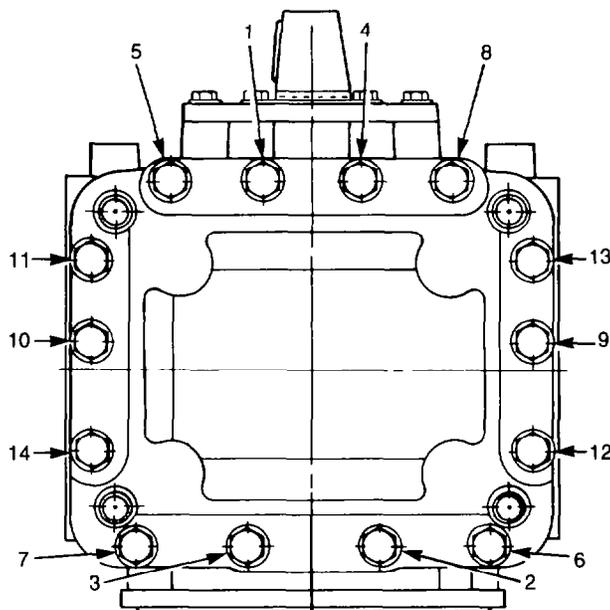

Figure 342 — Base Plate — Tightening Sequence
- f. Using a new gasket install and secure the base plate with the fourteen bolts torqued to 16-24 Nm (12-18 lb.ft) in the sequence shown in Fig. 342.